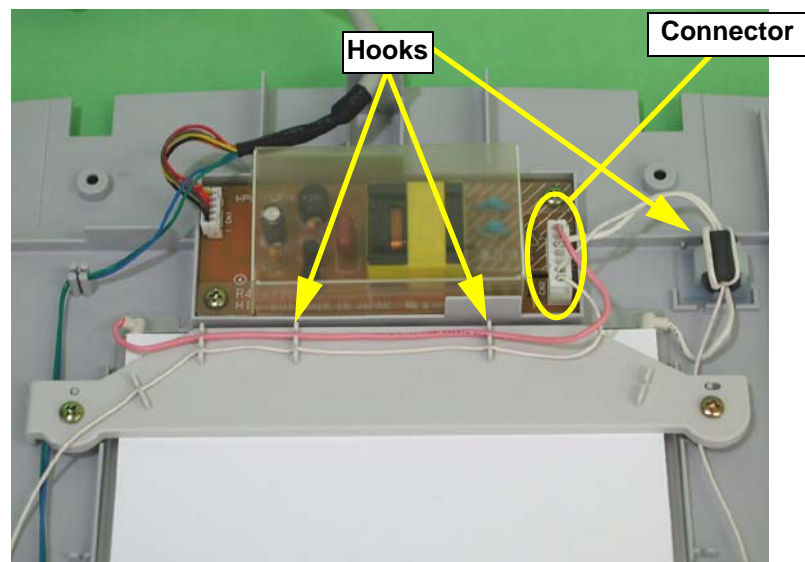
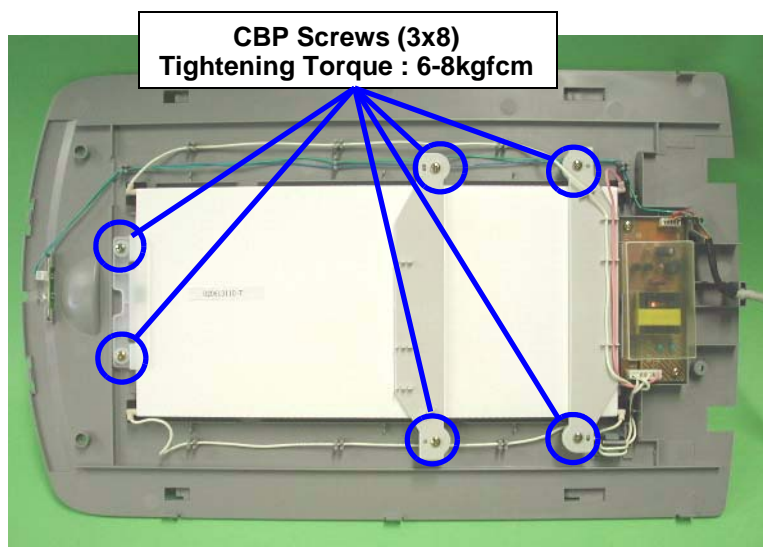

Figure 4-39. TPU Removal (3)
Figure 4-40. TPU Removal (4)
4. Remove the two screws (CBP, M3x8), and then remove the presser plate. (See Figure 4-39)
5. Disconnect the connector (CN2) from the inverter circuit board. (See Figure 4-39)
6. Disconnect the cable from the hook, and then disengage the two hooks and remove the TPU. (See Figure 4-39 and Figure 4-40)
When removing the TPU, the fluorescent lamp inside it may break if the TPU is held by the edgers, so always hold it at the middle. (See Figure 4-40)